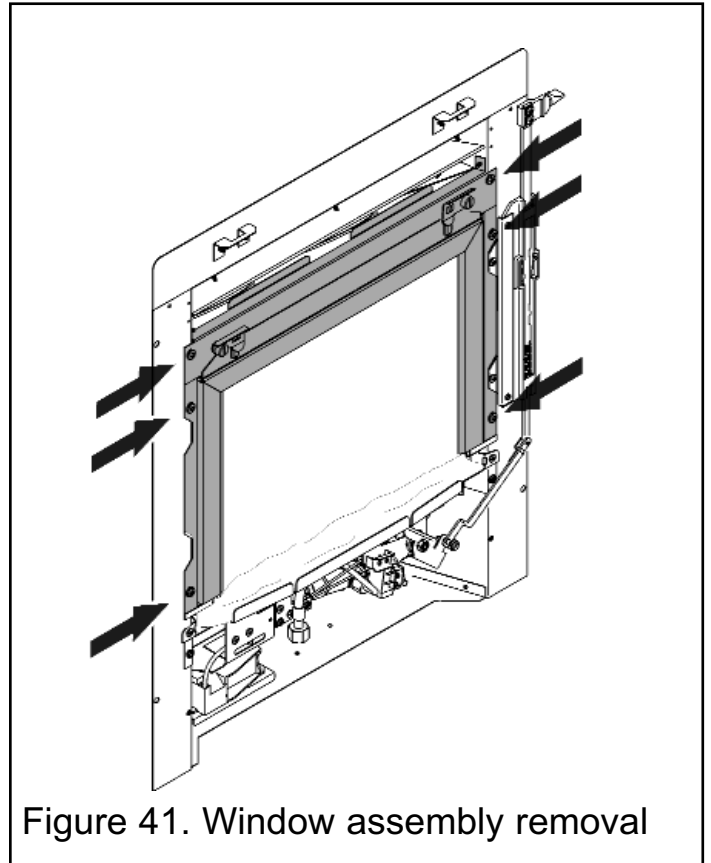

Figure 41. Window assembly removal
2. Unscrew and remove the six screws that secure the window mounting frame and window assembly. Remove and place away from the work area (See figure 41).